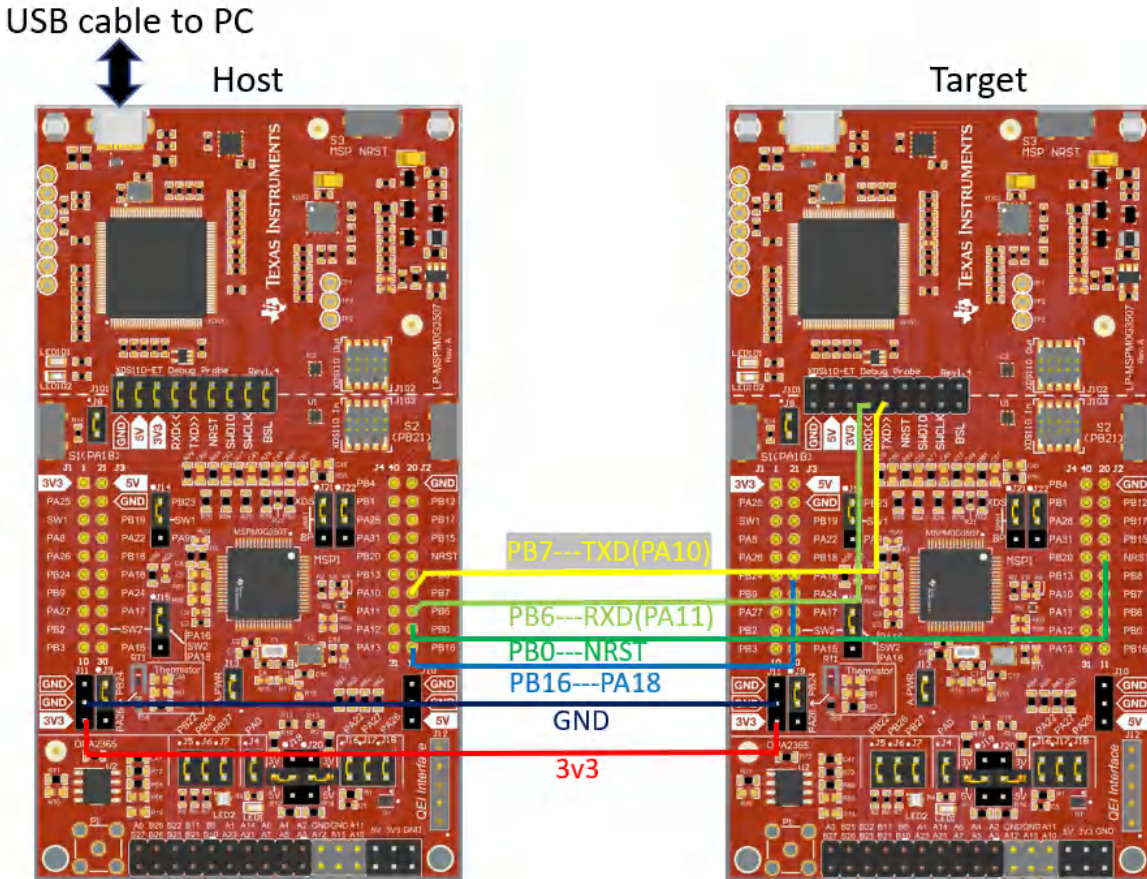

Figure 2-3. Hardware Signal Connections
| Figure 2-3. Hardware Signal Connections..... | 5 |
1. Connect the hardware signals as shown in Figure 2-3. This example uses UART, so the I2C signals do not need to be connected.